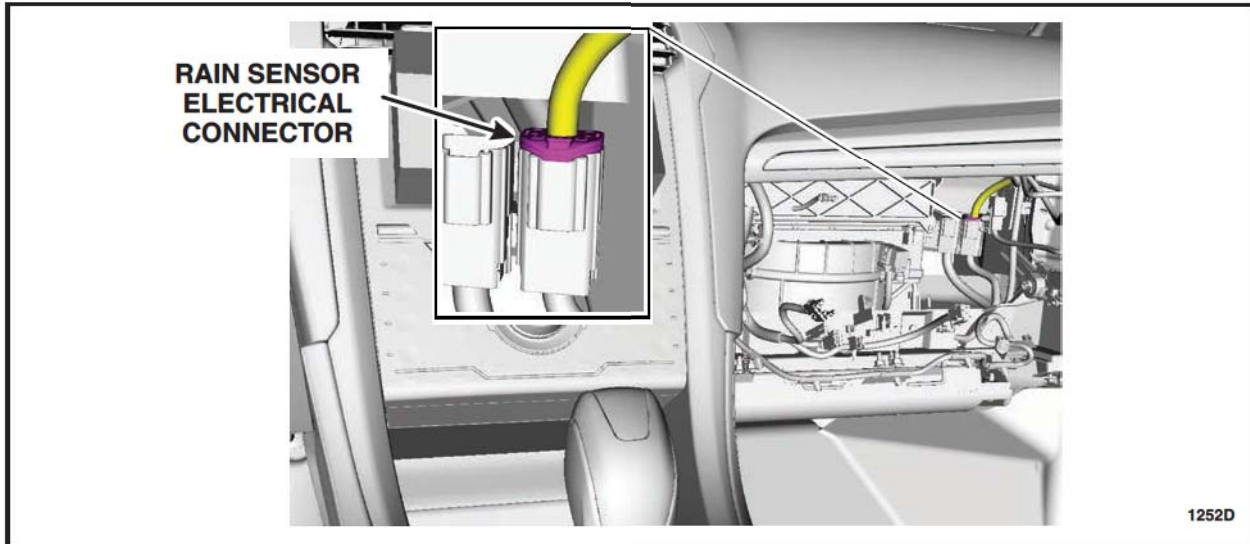

FIGURE 2
2. Disconnect the rain sensor and/or auto dimming mirror electrical connectors. See Figure 2.